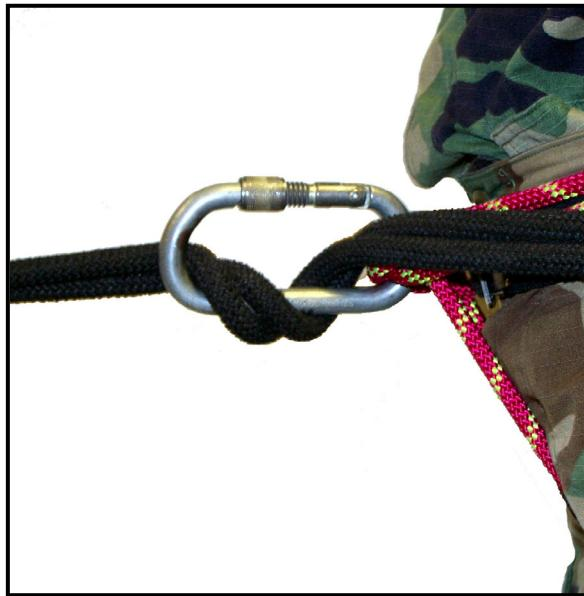

Figure 7-7. Proper hookup using carabiner wrap.
(1) An alternate technique is to insert two carabiners opposite and opposed. Then insert a locking carabiner into the two carabiners with opening gate on brake hand side. Then run the rope through the single carabiner. This helps to keep the rappel rope away from the harness.
(2) To hook up for the seat-hip method, stand to one side of the rope. If using a right-hand brake, stand to the left of the rappel rope facing the anchor; if using a left-hand brake, stand to the right of the rappel rope. Place the rappel rope(s) into the locking carabiner; slack is taken between the locking carabiner and anchor point and wrapped around the shaft of the locking carabiner and placed into the gate so that a round turn is made around the shaft of the locking carabiner (Figure 7-7, page 7-12). Any remaining slack is pulled toward the uphill anchor point. If a single rope is used, repeat this process to place two round turns around the shaft of the locking carabiner. Face the anchor point and descend using the upper hand as the guide and the lower hand as the brake. This method has minimal friction, and is fast and safe. However, care is taken that the rope is hooked correctly into the carabiner to avoid the gate being opened by the rope. Loose clothing or equipment around the waist may be accidentally pulled into the locking carabiner and lock (stop) the rappel. For this reason, the rappeller must tuck in his shirt and keep his equipment out of the way during his descent.